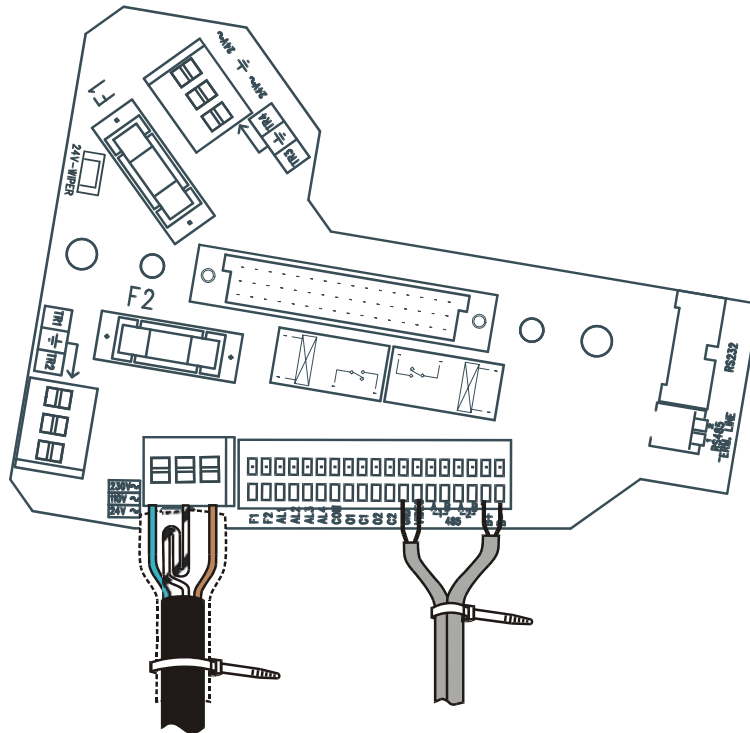

Fig. 4.5 Tie Threads used to Group and Secure Signal Cables
11. Make a group with all signal cables and fix them with the tie thread. *Figure 4.5* indicates a proper cable connection.